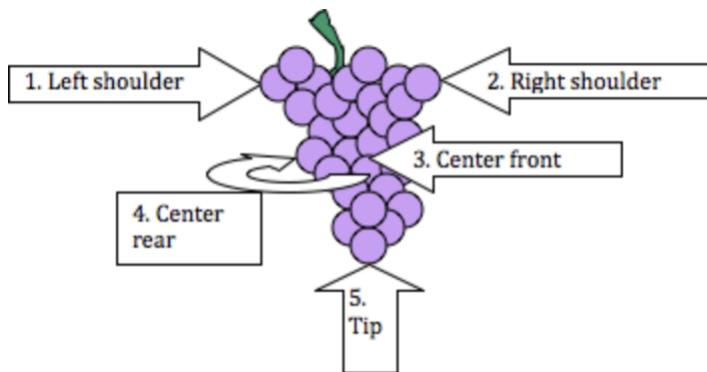

Figure 12: Sampling locations on cluster
3. At each vine, collect five berries from each of the three flagged clusters. Clusters generally develop from top to bottom so collect berries from the approximate positions indicated in Figure 12. Try to close or avert your eyes and sample by feel to avoid being visually drawn to the most developed grapes. Healthy grapes should feel firm and juicy to the touch. A very squishy or disintegrating grape is diseased and should be avoided. Do your best to pull or twist the grape from the rachis while keeping it relatively intact (it will store better until measurement)—but sometimes, on tightly packed clusters, it's impossible to extract 15 whole berries without breaking them.